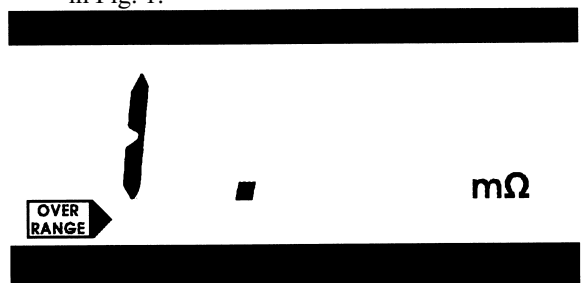

Fig. 1
- (1) With the leads disconnected, select the 20mΩ range and switch on the instrument by pressing the test switch and holding it depressed.
- (2) The low current warning lamp 'I' should light and the LCD should indicate the overrange condition as shown in Fig. 1.